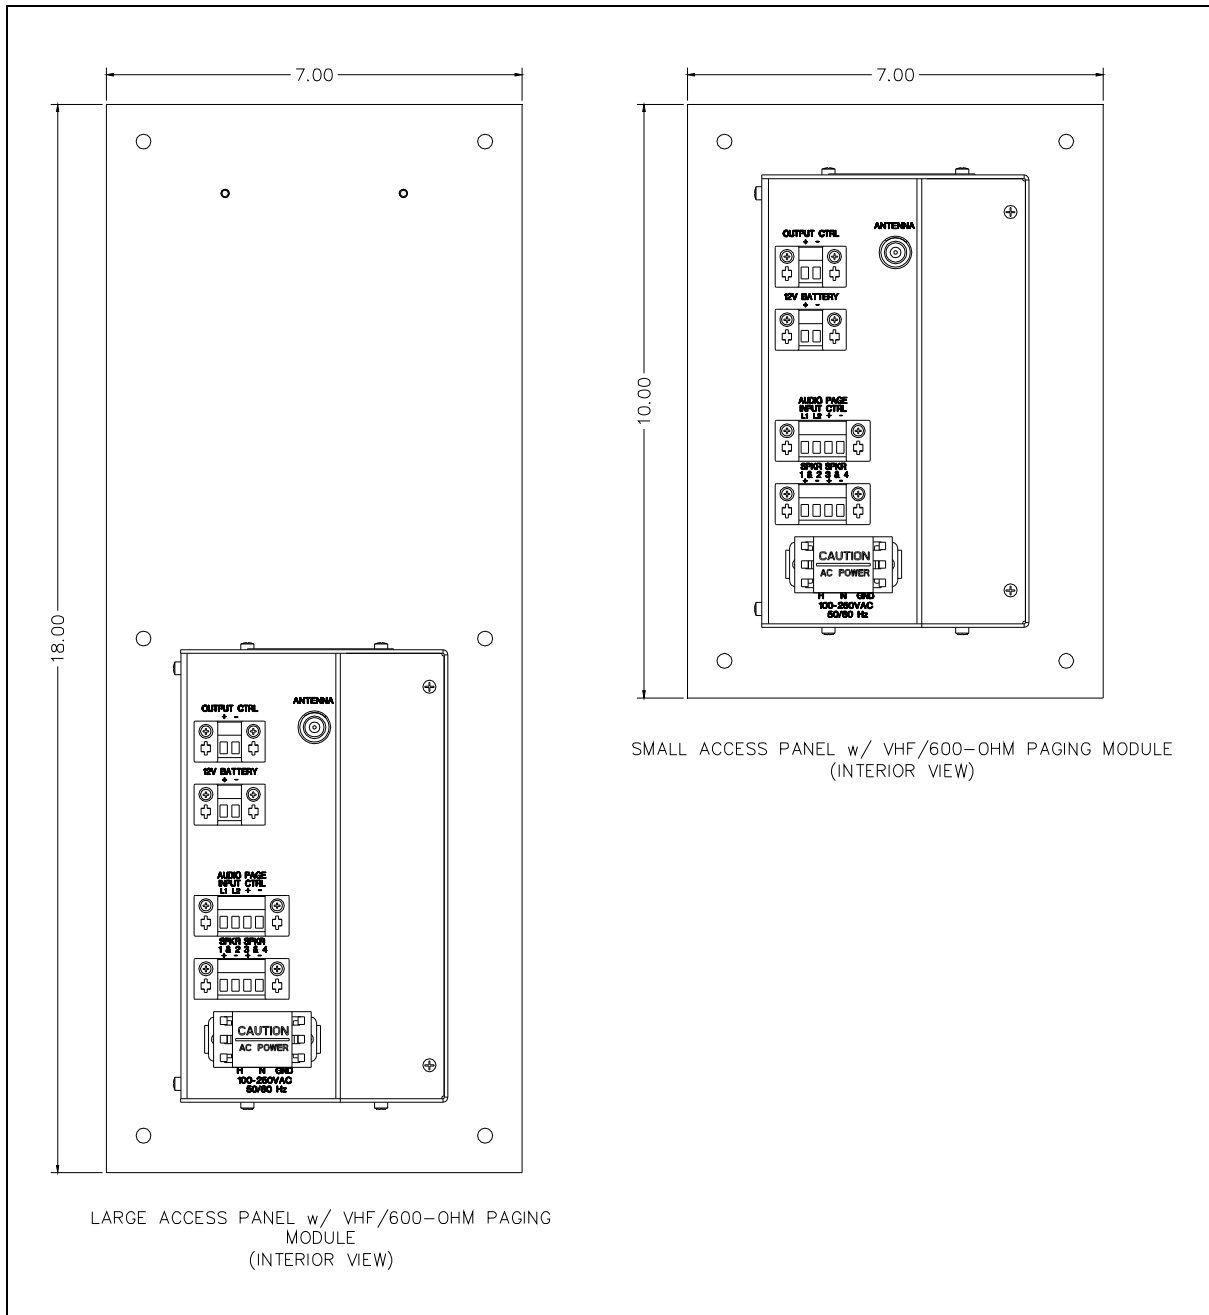

Figure 5. Electronics Paging Module Attachment to Front Panel
- The Model 12510-002 or Model 12510-003 Access Panel Kit (sold separately) contains four #6-32 studs to attach the paging module. Attach the plate to the #6-32 studs with the provided #6 keys nuts. Be sure to note the orientation of the access panel when attaching the plate. Refer to Figure 5.